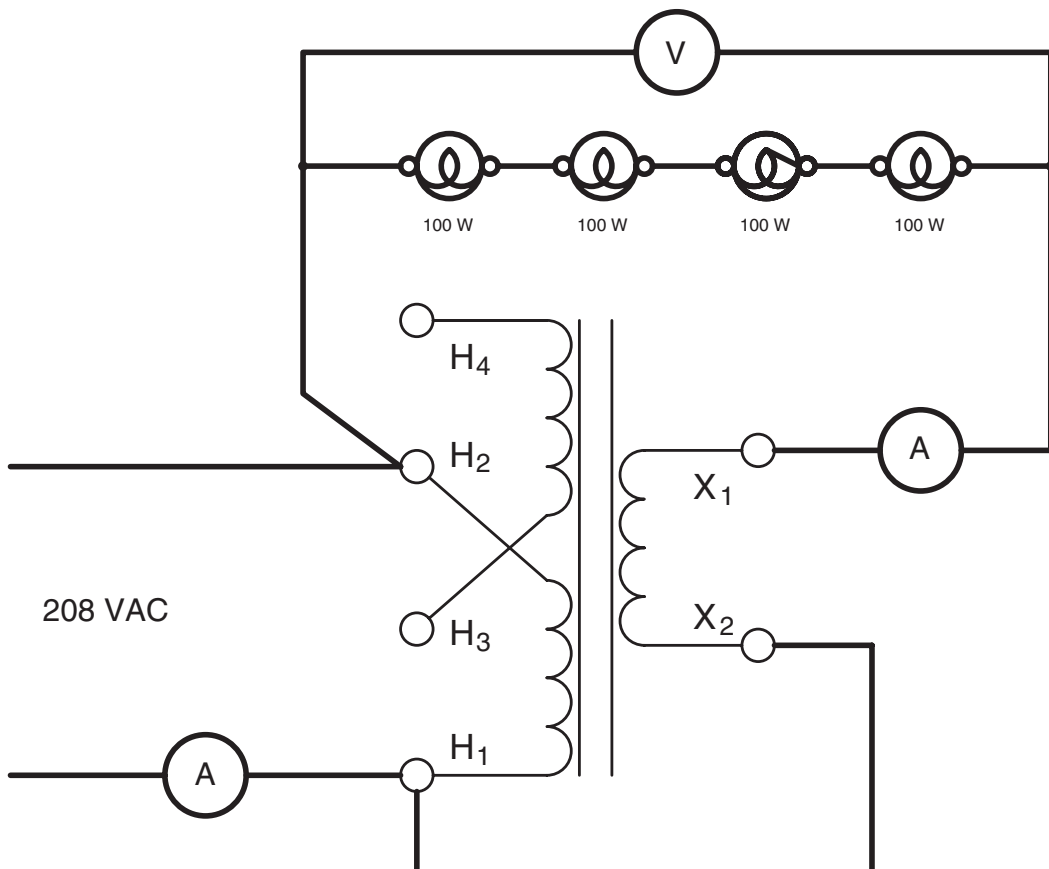

Figure 21-18 Connecting load to the boost connection.
36. Reconnect the transformer for the boost connection by connecting terminal X_2 to H_1 . If two ammeters are available, connect one AC ammeter in series with one of the power supply leads and the second AC ammeter in series with the secondary. Connect four 100 watt lamps in series with terminals X_1 and H_2 as shown in Figure 21-18. Connect an AC voltmeter across terminals X_2 and H_1 .